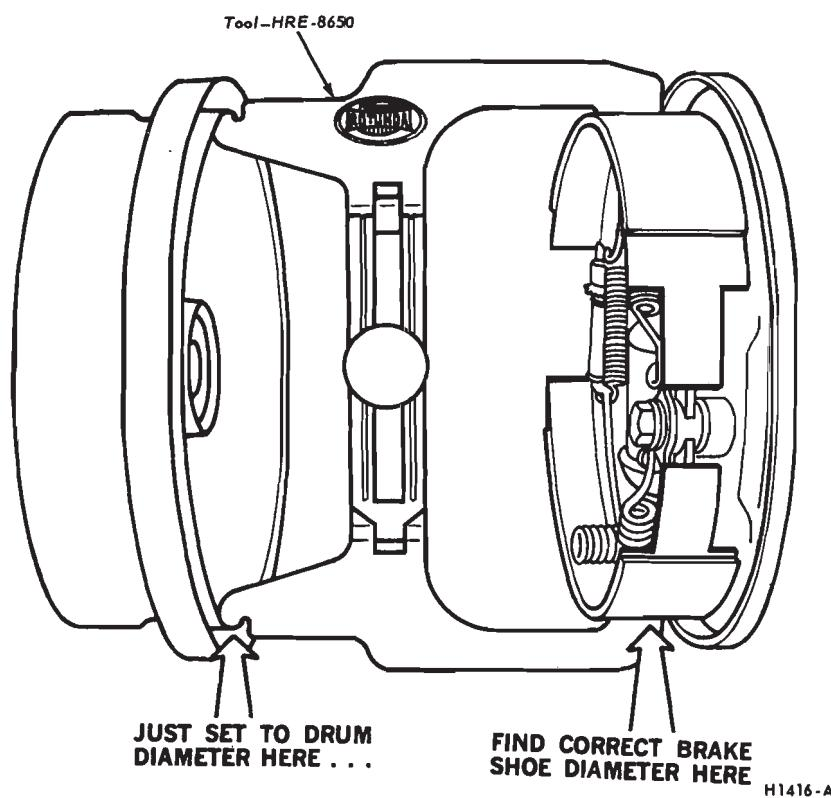

FIG. 4—Adjusting Brake Shoes Using Tool HRE-8650
1. Use Rotunda Tool HRE 8650, (Fig. 4) to determine the inside diameter of the drum braking surface.
2. Reverse the tool as shown in Fig. 4 and adjust the brake shoe diameter to fit the gauge. Hold the automatic adjusting lever out of engagement while rotating the adjusting screw, to prevent burring the screw